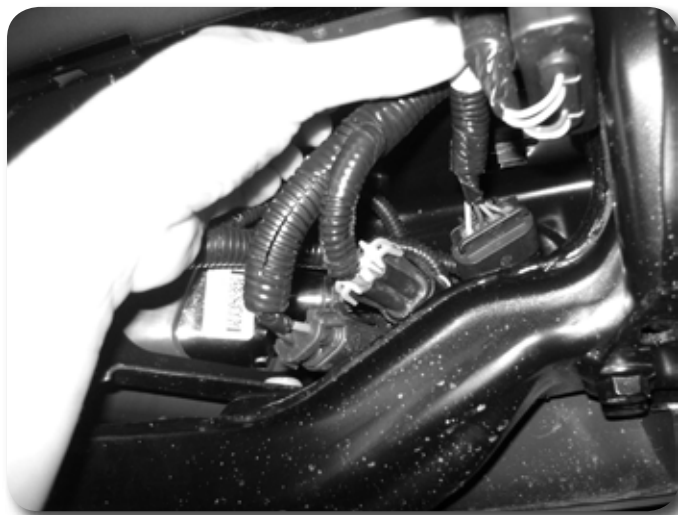

Figure 1
2. Disconnect the wiring connectors inside of the rear bumper on the driver's side. Should be 3 connectors total. **Figure 1**